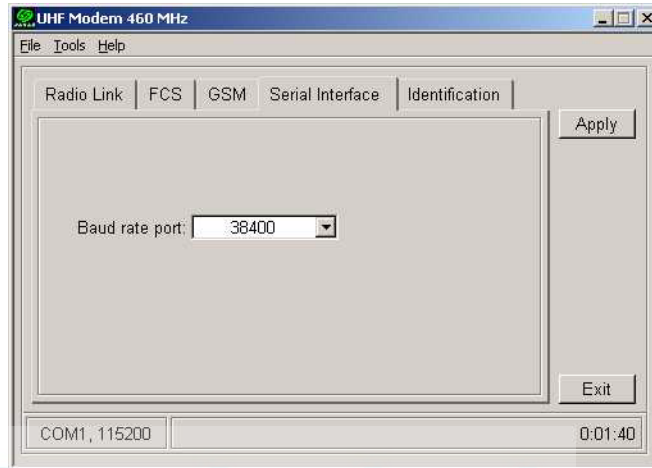

Figure 2-24. Serial Interface Tab
10. Click the **Serial Interface** tab (Figure 2-24) and select a baud rate for the modem's serial port. The same rate must be used for both the receiver and the modem.
7. Click the **Serial Interface** tab (see Figure 2-24 on page 2-30) and select a baud rate for the modem's serial port. The same rate must be used for both the receiver and the modem.
7. Click the **Serial Interface** tab (Figure 2-24 on page 2-30) and select a baud rate for the modem's serial port. The same rate must be used for both the receiver and the modem.
7. Click the **Serial Interface** tab and select a baud rate for the modem's serial port. The same rate must be used for both the receiver and the modem (Figure 2-24 on page 2-30).
7. Click the **Serial Interface** tab and select a baud rate for the modem's serial port. The same rate must be used for both the receiver and the modem (see Figure 2-24 on page 2-30).